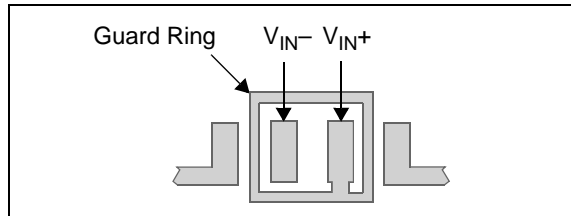

FIGURE 4-4: Example guard ring layout.
The easiest way to reduce surface leakage is to use a guard ring around sensitive pins (or traces). The guard ring is biased at the same voltage as the sensitive pin. Figure 4-4 is an example of this type of layout.
1. Inverting Amplifiers (Figure 4-4) and Transimpedance Gain Amplifiers (convert current to voltage, such as photo detectors).